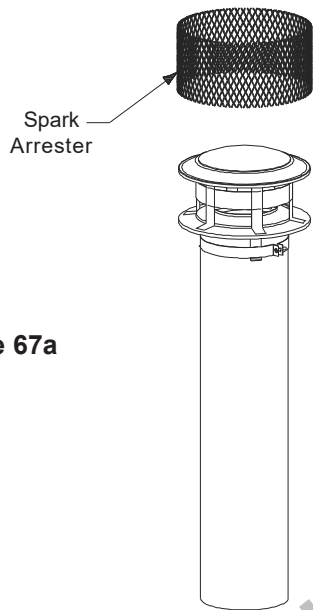

Figure 67a
1. Wearing safety gloves, place the pre-formed Spark Arrester directly over the dome and skirt of the Round Top (see Figure 67a).